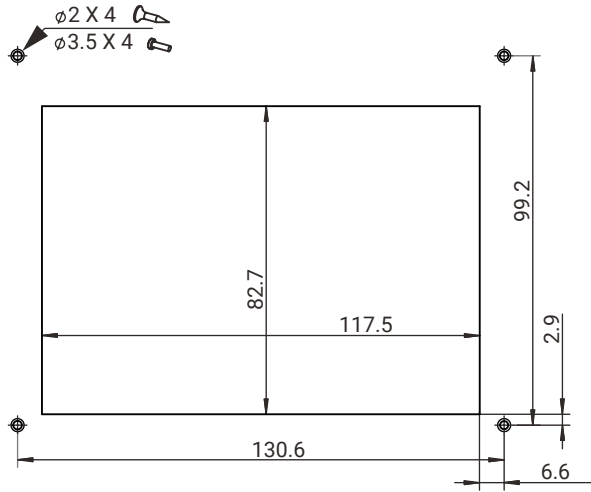

Figure 2-5
1. Drill holes on the hull through the fixing guide referring to the figure 2-5.